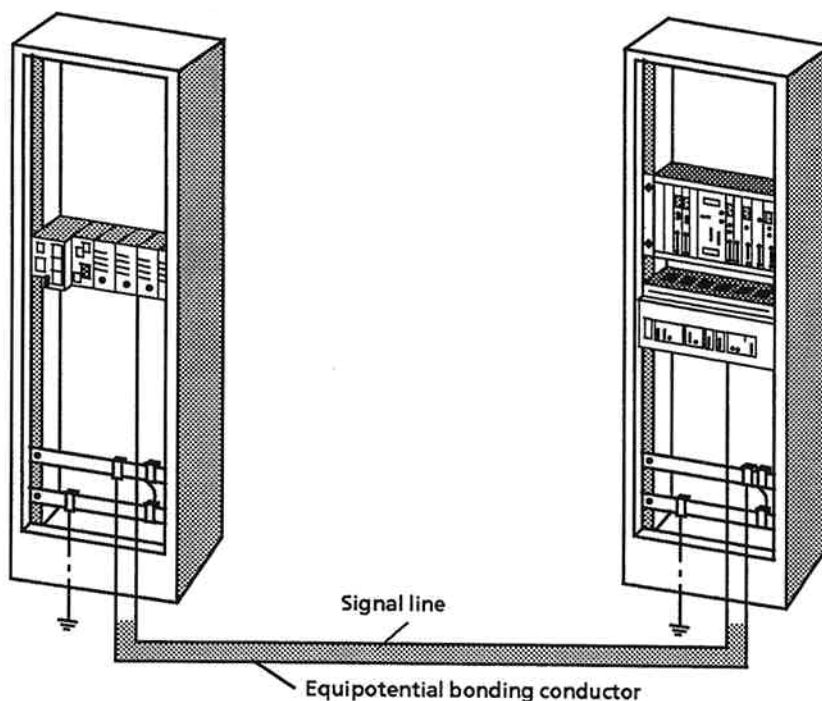

Figure 3-1. Routing of Equipotential Bonding Conductor and Signal Line
- The equipotential bonding conductor should be laid so that the smallest possible areas are enclosed between the equipotential bonding conductor and signal lines (see Figure 3-1).